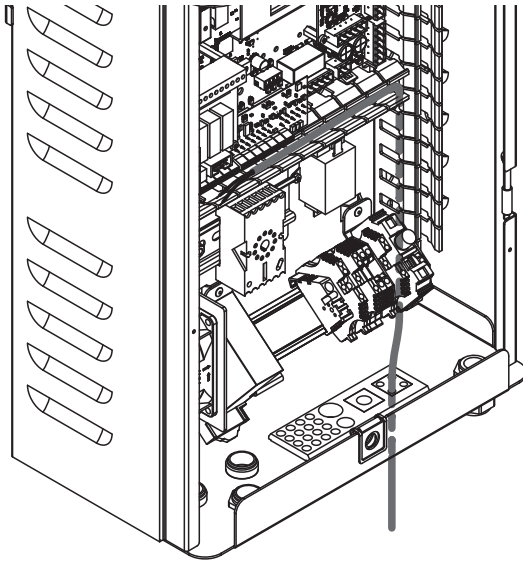

Fig. 8: Sensor cable feed through
11. Feed the sensor cable through the rectangular cable lead-through into the control unit lead it inside the cable trunkings to the connecting point of the leak detector base (see Fig. 8).